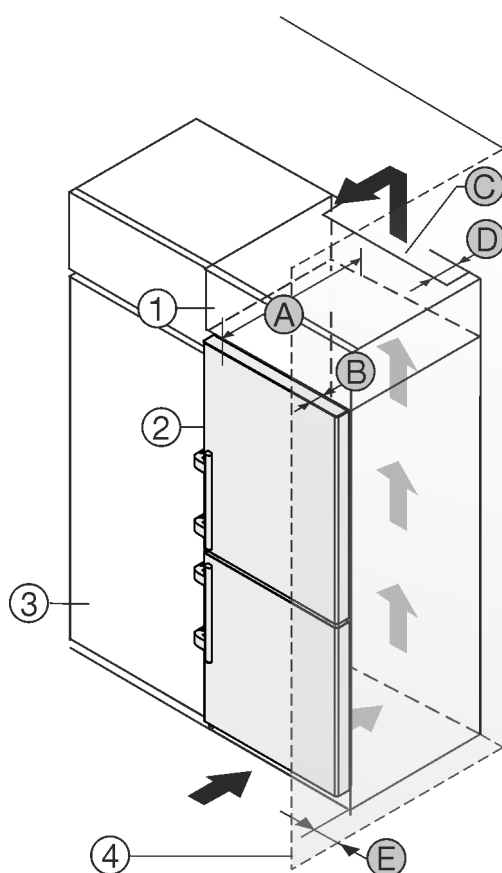

Fig. 2
You can place the appliance directly beside the kitchen cabinet *Fig. 2 (3)*.*
There must be a ventilation shaft at the depth *Fig. 2 (D)* of the back of the top cupboard over the entire width of the top cupboard.*
The ventilation cross-section *Fig. 2 (C)* must be maintained under the ceiling.*
If the appliance is set up with the hinges next to a wall *Fig. 2 (4)*, the distance between the appliance and the wall must be at least 57 mm . This is how far the handle protrudes when the door is open.*
In order to be able to fully open the door, the appliance must protrude by the depth of the door *Fig. 2 (B)* from the front of the kitchen cabinet. The appliance may protrude further depending on the depth of the kitchen cabinets *Fig. 2 (3)* and whether wall spacers are used.*